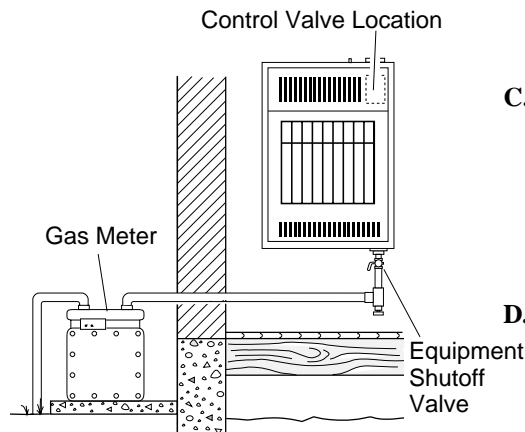

Figure 14 - Checking Gas Joints
3. Check all joints from gas meter to manual shutoff valve (see Figure 14). Apply mixture of liquid soap and water to gas joints. Bubbles forming show a leak.
4. Check all joints from equipment shutoff valve to control valve (see Figure 14). Apply mixture of liquid soap and water to gas joints. Bubbles forming show a leak.